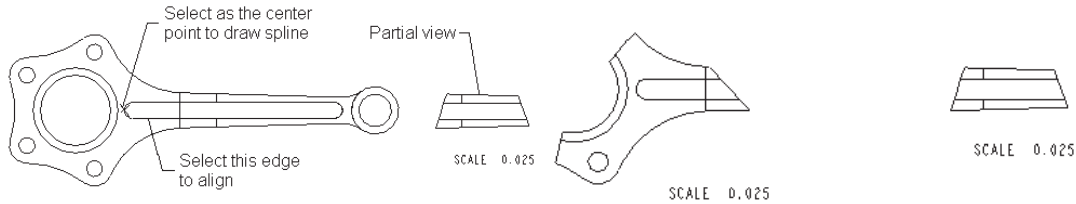

Figure 11-32 Center point to draw a spline and the edge to align and the partial view
4. Select an edge from the current view, as shown in Figure 11-32, to align it with the partial view. The copied view is aligned with its parent partial view, as shown in Figure 11-33.